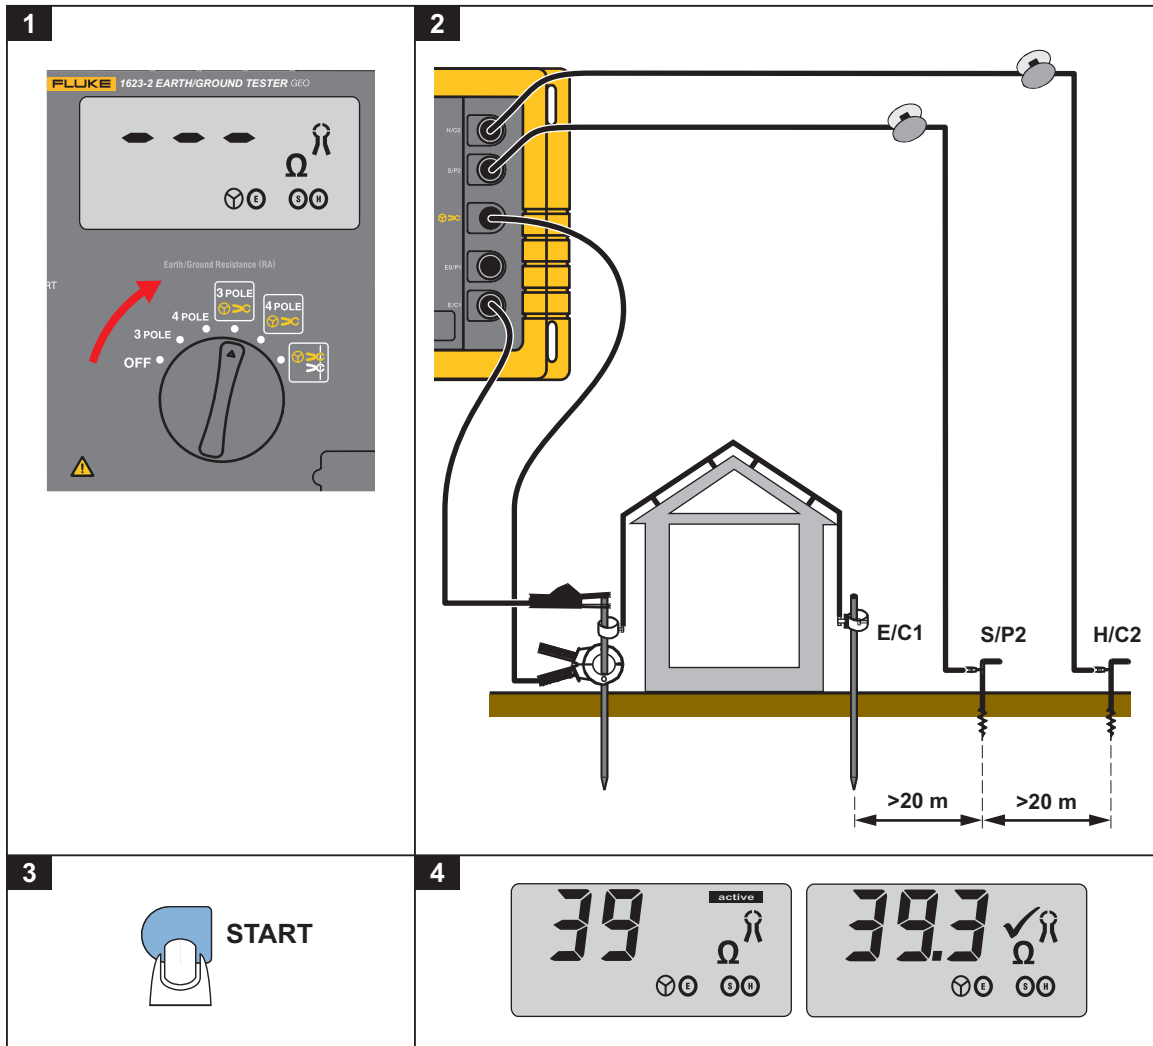

Figure 6. R_A 3-Pole Selective Earth Resistance Measurement with Current Clamp
1. Select **3 POLE**  **>C**. See Figure 6.